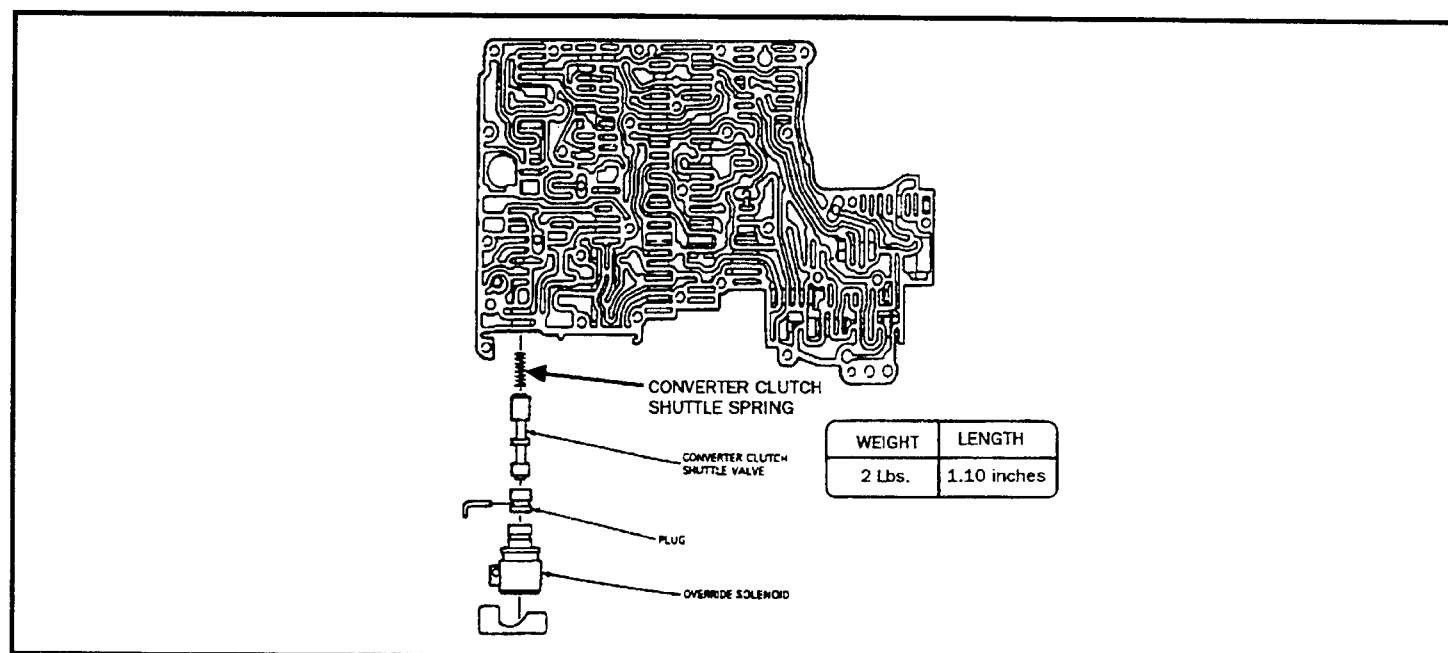

Figure 79
- (2) Remove the converter clutch shuttle valve and spring from the valve body. Inspect and replace as necessary, (See Figure 79). the converter clutch shuttle valve spring should be 1.10 inches in length and should weigh about 2 lbs. before coil bind.